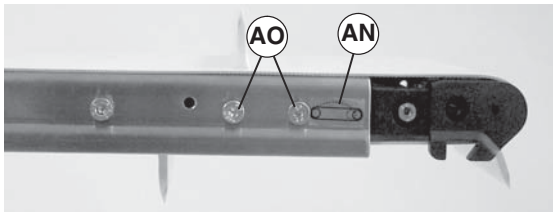
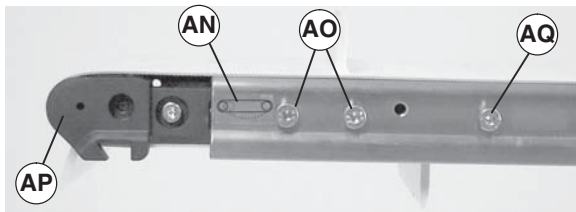
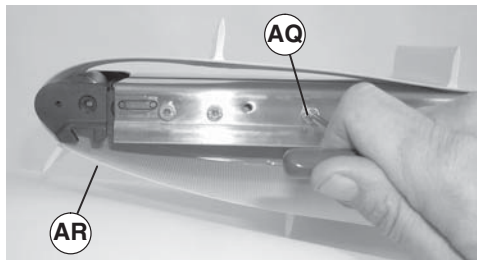
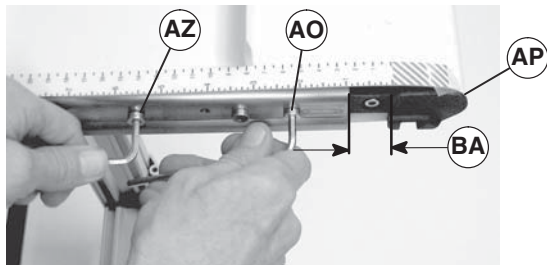

Figure 21
Figure 22
Figure 23
Figure 29
3. On tension end of the conveyor identified with a label (Figure 21, item AN) and (Figure 22, item AN), loosen four M6 socket head cap screws (AO).
4. Retract idler spindle assembly (Figure 22, item AP) by pushing in on it or by turning M6 pinion screw (Figure 22, item AQ) and (Figure 23, item AQ) clockwise.
5. Remove conveyor belt (Figure 23, item AR).
4. Retract idler spindle assembly (Figure 22, item AP) by pushing it in or by turning M6 pinion screw (Figure 22, item AQ) and (Figure 23, item AQ) clockwise.
4. On tension end of the conveyor identified with a  label (Figure 21, item AN) and (Figure 22, item AN), loosen four M6 socket head cap screws (AO).
5. Retract idler spindle assembly (Figure 22, item AP) by pushing it in or by turning M6 pinion screw (Figure 22, item AQ) and (Figure 23, item AQ) clockwise.
6. Remove conveyor belt (Figure 23, item AR).
2. Slide belt (Figure 23, item AR) onto the conveyor frame assembly.
2. Slide belt (Figure 23, item AR) onto conveyor frame assembly.
1. On tension end of the conveyor identified with a  label (Figure 21, item AN) and (Figure 22, item AN), loosen four M6 low head screws (AO).
The M6 low head screw (Figure 29, item AZ), which is used for extending the idler spindle assembly to tension the belt, has a yellow colored head.
- a. For an existing belt, extend idler spindle assembly (Figure 29, item AP) by turning M6 low head screw (AZ) clockwise to sufficiently tension belt to handle conveyor load.
(Figure 29, item AP) 1" (25 mm) (BA) by turning M6 low head screw (AZ) clockwise.
3. Tighten four M6 low head screws (Figure 21, item AO), (Figure 22, item AO) and (Figure 29, item AO) to 40 in-lb (4.5 Nm) to secure idler spindle assembly (AP).